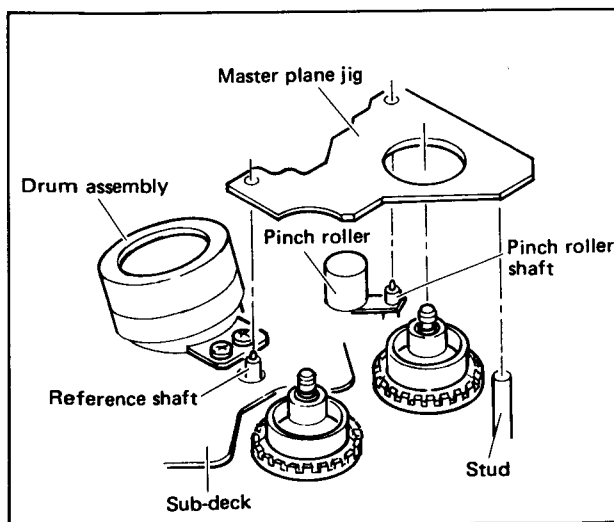

Fig. 4-23 Master plane jig setting
3. As shown in Fig. 4-23, position the master plane jig with respect to the reference shaft, pinch roller shaft and the stud.